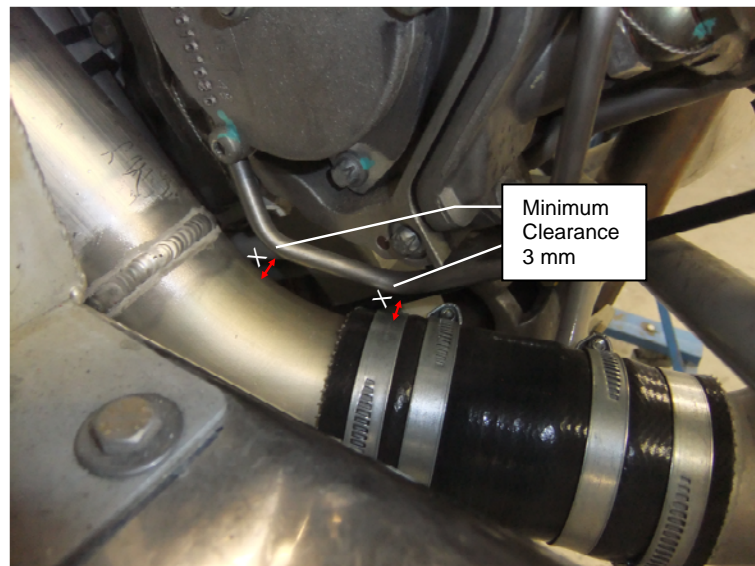

Figure 2: Attachment of charge air tube
- Make sure that the charge air tube has at **least** 3 mm clearance to the oil line aft of the engine (refer to Figure 2 below).